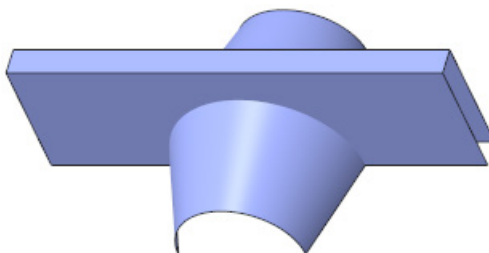

Figure 15-121 Model after creating the mirror copy of the blend surface
2. Select the **FRONT** datum plane and exit the dashboard; the blend surface is mirrored about the selected datum plane, as shown in Figure 15-121.